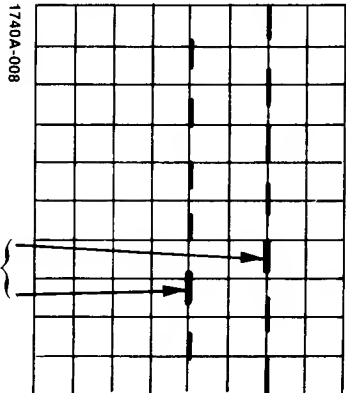

Figure 7a. Normal Display With Intensified Area
3. Turn the DELAY **47** clockwise until part of the waveform in the second half of the CRT is intensified (see figure 7a).